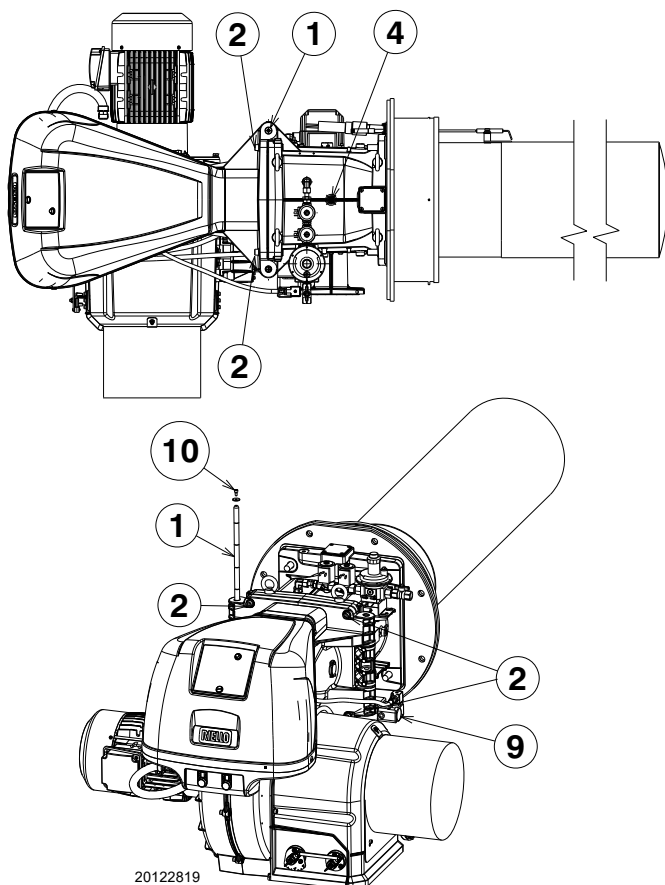

Fig. 21
The burner leaves the factory set for opening to the left, therefore maintaining the pin 1)(Fig. 21) in the housing.
- A disconnect the plug/socket 9)(Fig. 21) of the maximum gas pressure switch;
To open the burner from the opposite side, before removing the pin 1)(Fig. 21), make sure that the 4 screws 2) are tight.
- H Disconnect the socket 9)(Fig. 21) of the maximum gas pressure switch, then proceed as described above at point C).